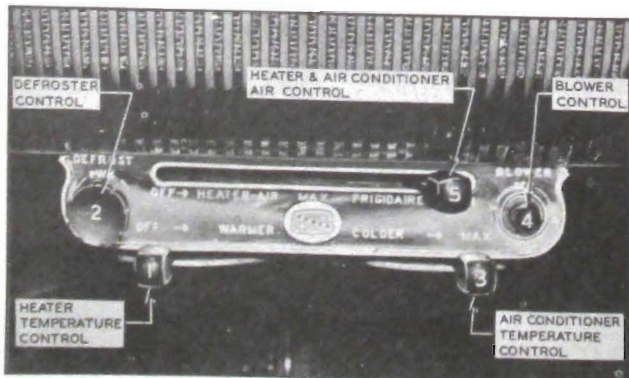

Figure 11-22—Air Conditioner Control Panel
8. *Controls.* Lower left lever (1) is the heater-defroster temperature control, shown in "OFF" position. (Figure 11-22.)
3. *Control Adjustments.* The Heater and Air Conditioner Air Control (5 in fig. 11-22) is adjusted by positioning the control lever directly over the letter "X" in "Max" on the control panel and clamping the bowden wire sheaves in the proper position as outlined below. With Air Control (5) in the above position: